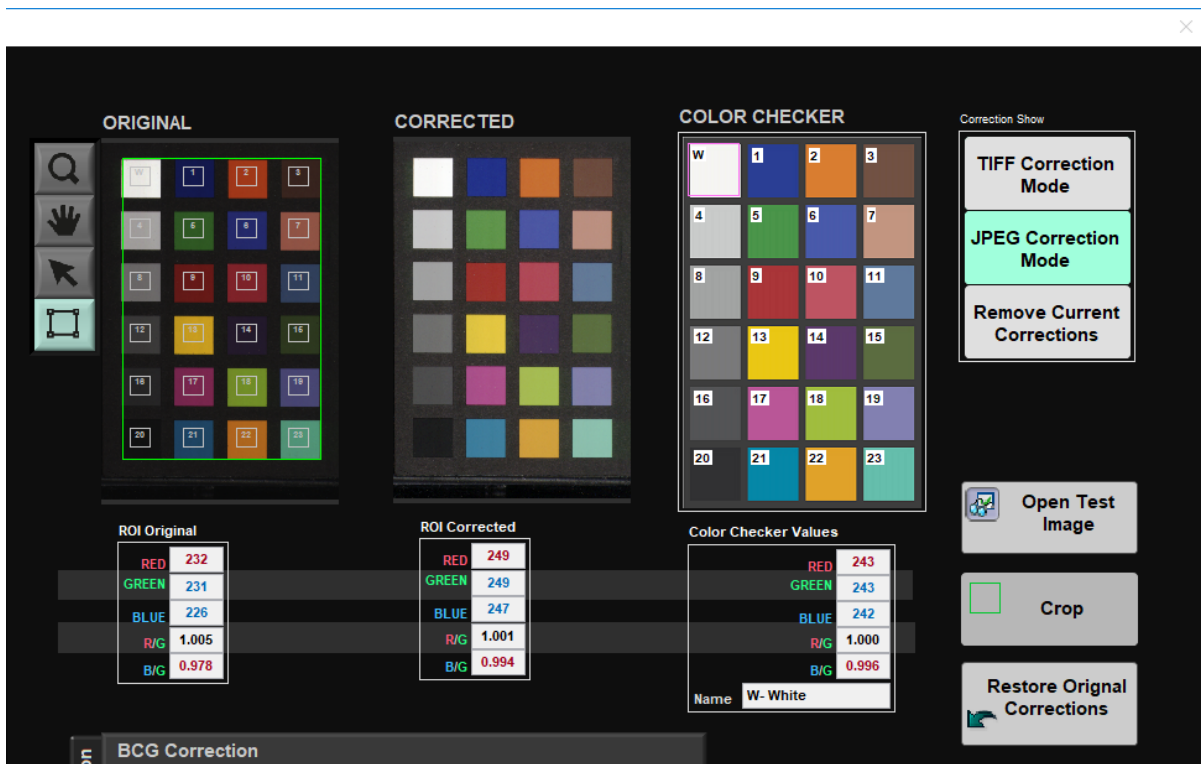

Figure 48. Crop box drawn with white boxes centered in color squares
12. With the square tool still selected, draw another box around the squares (Figure 48). This time get the green box very close to the edge of the colored squares. Small white boxes will appear in the color squares. Adjust the green rectangle so the white boxes are approximately in the center of the squares.